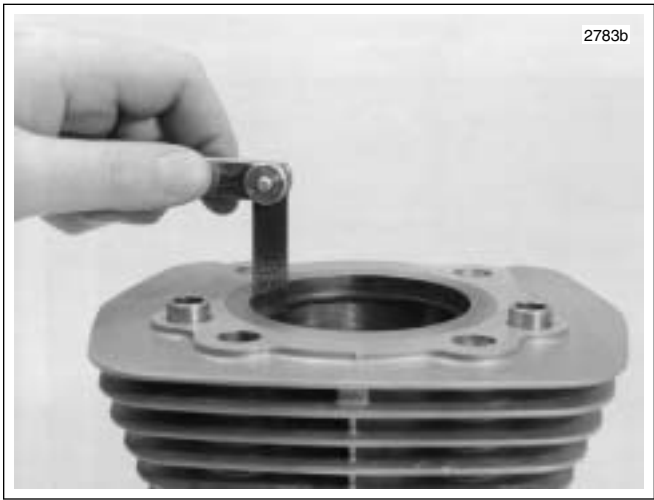

Figure 3-93. Measuring Ring End Gap
1. See Figure 3-93. Insert the **new** ring into the cylinder, square it in the bore using the top of the piston and measure the ring end gap with a feeler gauge. Do not use the ring if the end gap does not fall within the following specifications, See Table 3-23.